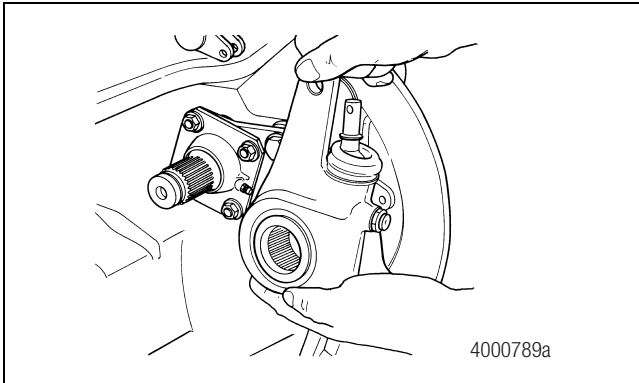

Figure 6.17
13. Install the slack adjuster onto the camshaft. Figure 6.17.